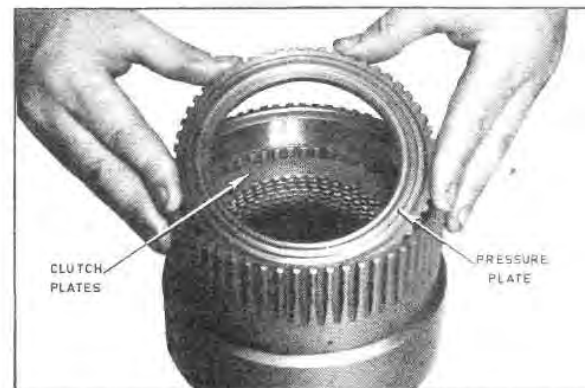

Fig. G56 — Install the Clutch Pressure Plate
14. Install the clutch pressure plate with the smoothly ground face down in contact with the clutch plates, as shown in Figure G56.